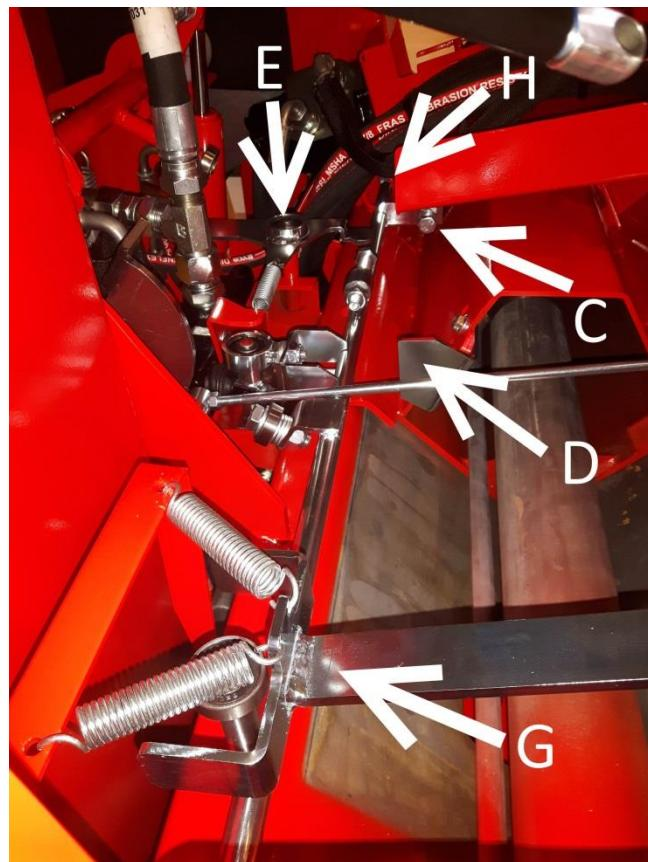
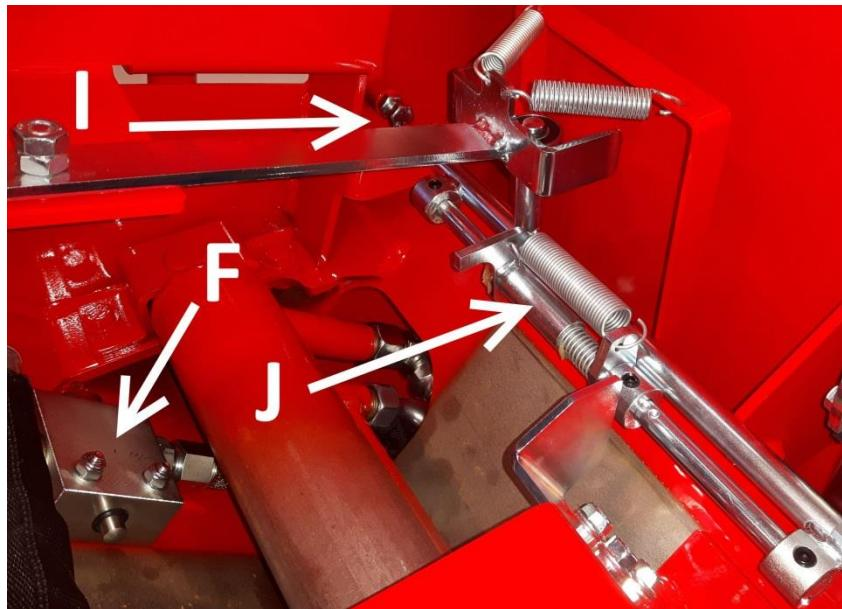

Figure 18
Figure 19
**Note! Turn the limiter plate to the correct position according to the thickness of the log. (See Figures 18 and 19).**
4. Adjustment screw **C** defines the stroke length of the splitting cylinder, i.e. the phase in which the splitting valve turns from the splitting position to the reverse position (Figure 18). If the stroke is too short, for example (i.e. the splitting cylinder does not go sufficiently close to the splitting blade), rotate adjustment screw **C** further in relation to plate **D** and vice versa.
5. Valve **F** (Figure 19) stops the cylinder after a splitting motion. The initial position cannot be adjusted.
**Note:** The motion booster spring **J** (Figure 19) **must be able to move freely for the splitting beam to return to the starting position unhindered.**
**Note:** splitting lever **G** moves the same splitting bar as splitting activation lever **E**. (Figure 18)
The extreme positions of the splitting valve can be limited with bolts **H** and **I** (Figure 18 and Figure 19). The bolt adjustments should not be changed. Instead, worn bolts should be replaced with new ones!
7. Motion booster sleeve J and bar in Figure 19 (every 200 hours)